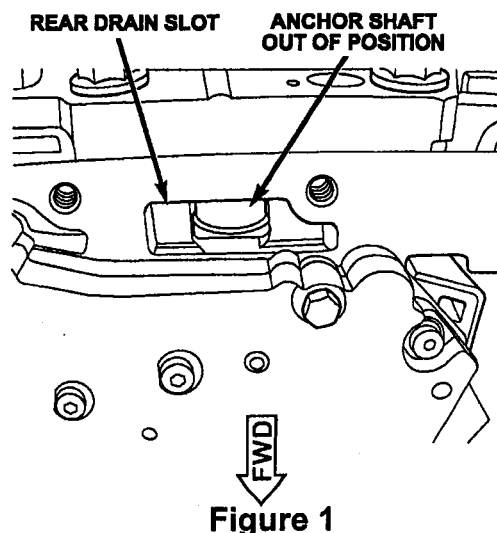

Figure 1
10. Look into the rear drain slot (Figure 1).